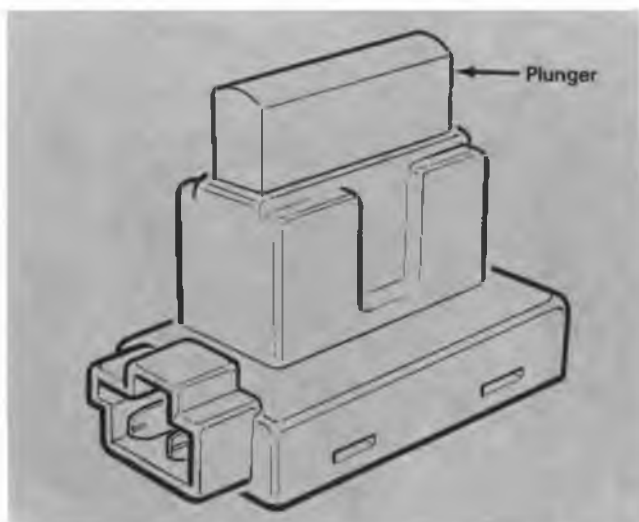

Figure 3-2B Plunger Type Cruise Release Switch
On vehicles with manual transmission, a plunger type clutch switch (see Figure 3-2B) is used in series with the two (2) brake switches. When the clutch pedal is depressed, the clutch switch disengages the cruise system. The cruise system remains disengaged after the pedal is released.